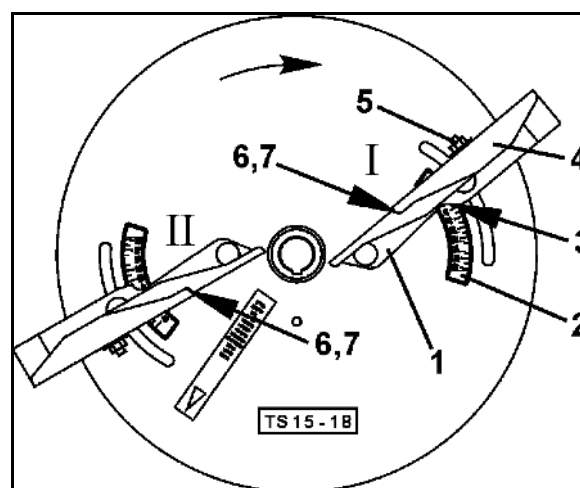

Fig. 80
are set via the telescoping vanes (Fig. 80/1) in accordance with the setting chart depending on the type of fertiliser to be spread and the distance of the first tramline from the field edge:
1. Swivel the telescoping vanes (Fig. 80/1) on the spreading disc after releasing the respective wing nut in the area of the scale (Fig. 80/2). Read off the value at the read-off edge (Fig. 80/3) and retighten the wing nut.
2. Set the vane outer section to a higher letter value (Fig. 80/4) after releasing the nut (Fig. 80/5) on the scale (Fig. 80/6). The respective position of the vane outer section is read off at the read-off edge (Fig. 80/7) on the scale.